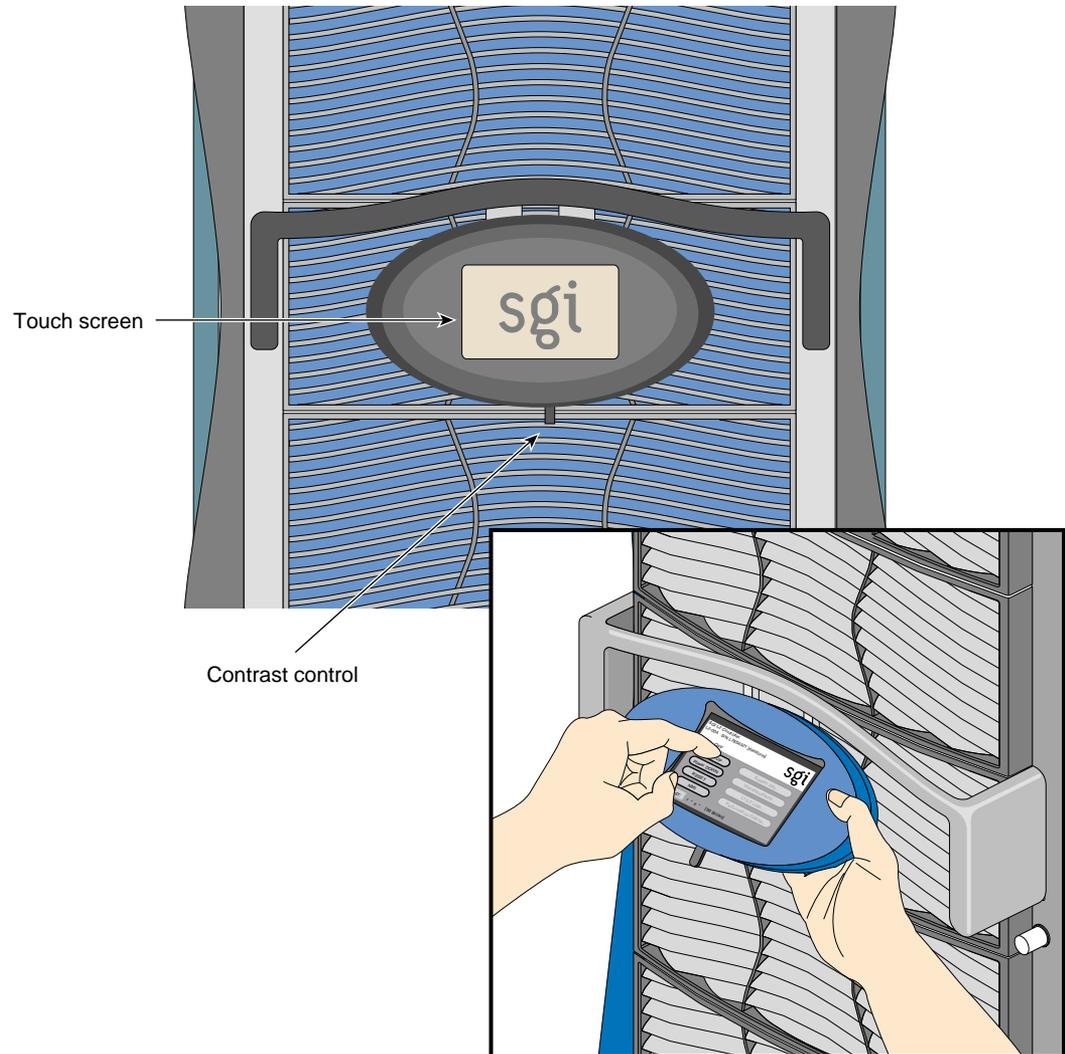

Figure 4-15 L2 Controller Interface Screen
1. Locate the L2 controller touch display on the front of the system (see Figure 4-15).